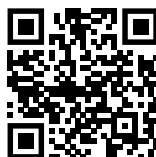

Fig. 115
- ▶ Open Liebherr SmartMonitoring Dashboard. (see Fig. 115)